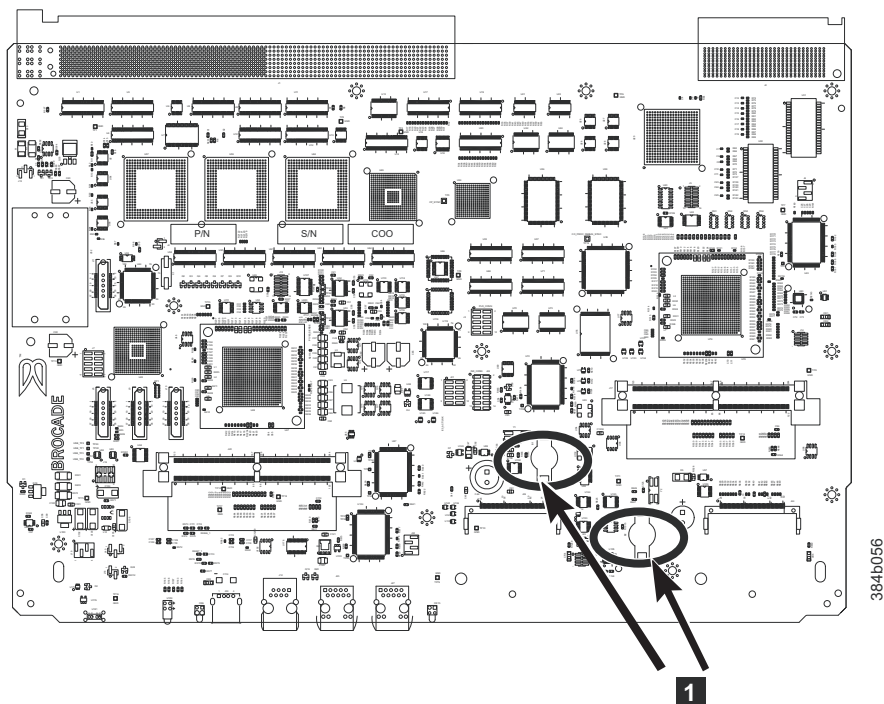

Figure 52. Battery locations on the CP8 blade
6. Go to the following locations and remove the two BR1225 batteries from each of the PCBAs (see **1** in Figure 52):